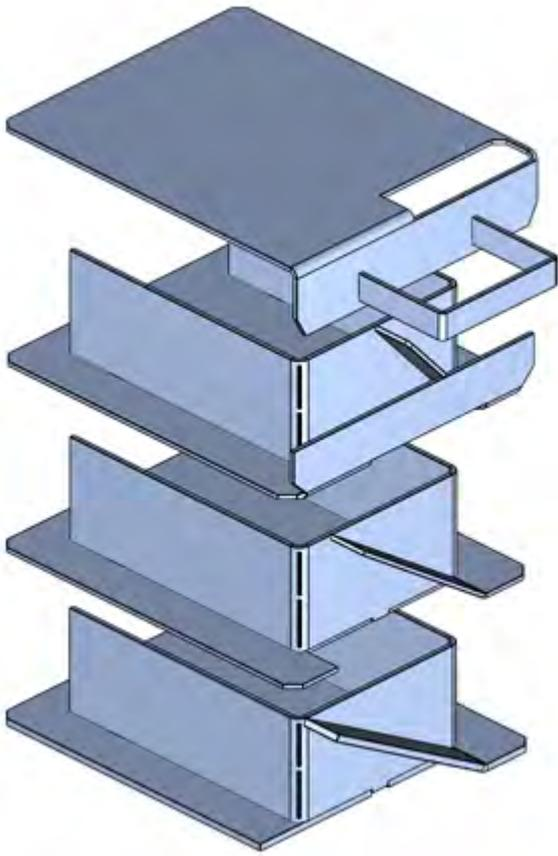
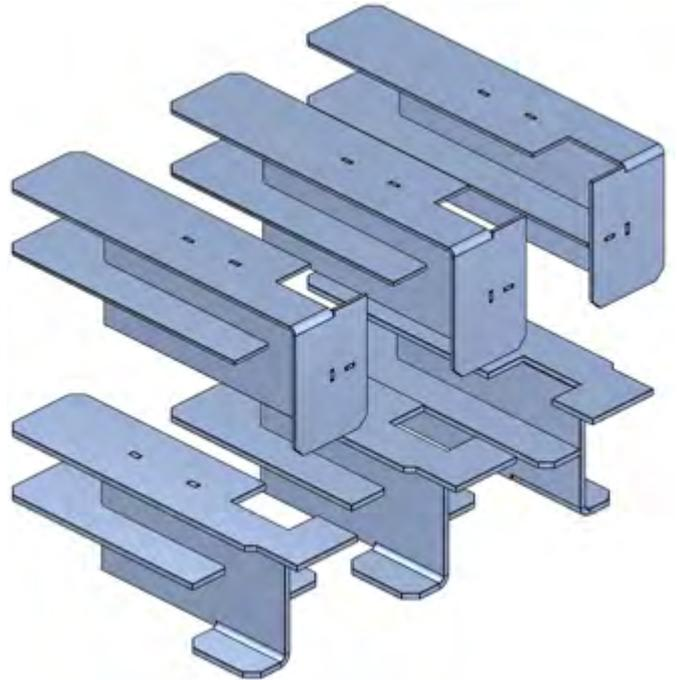
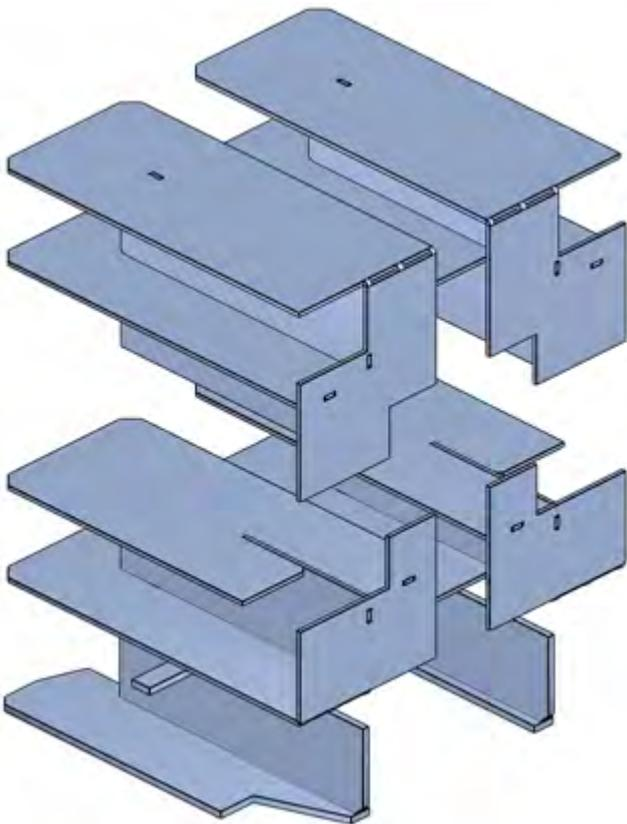

Figure 11-1: Baffles in Vortex Pro Combi 21
Figure 11-3: Baffles in Vortex Pro Combi 36
Figure 11-2: Baffles in Vortex Pro Combi 26
2. Remove the baffles as shown in Figure 11-1, Figure 11-2 and Figure 11-3.
6. Replace the baffles, ensuring they are correctly fitted. See Figure 11-1, 11-2, 11-3 or 11-4, as appropriate. Pull out the spiral turbulators from the heat exchanger tubes.